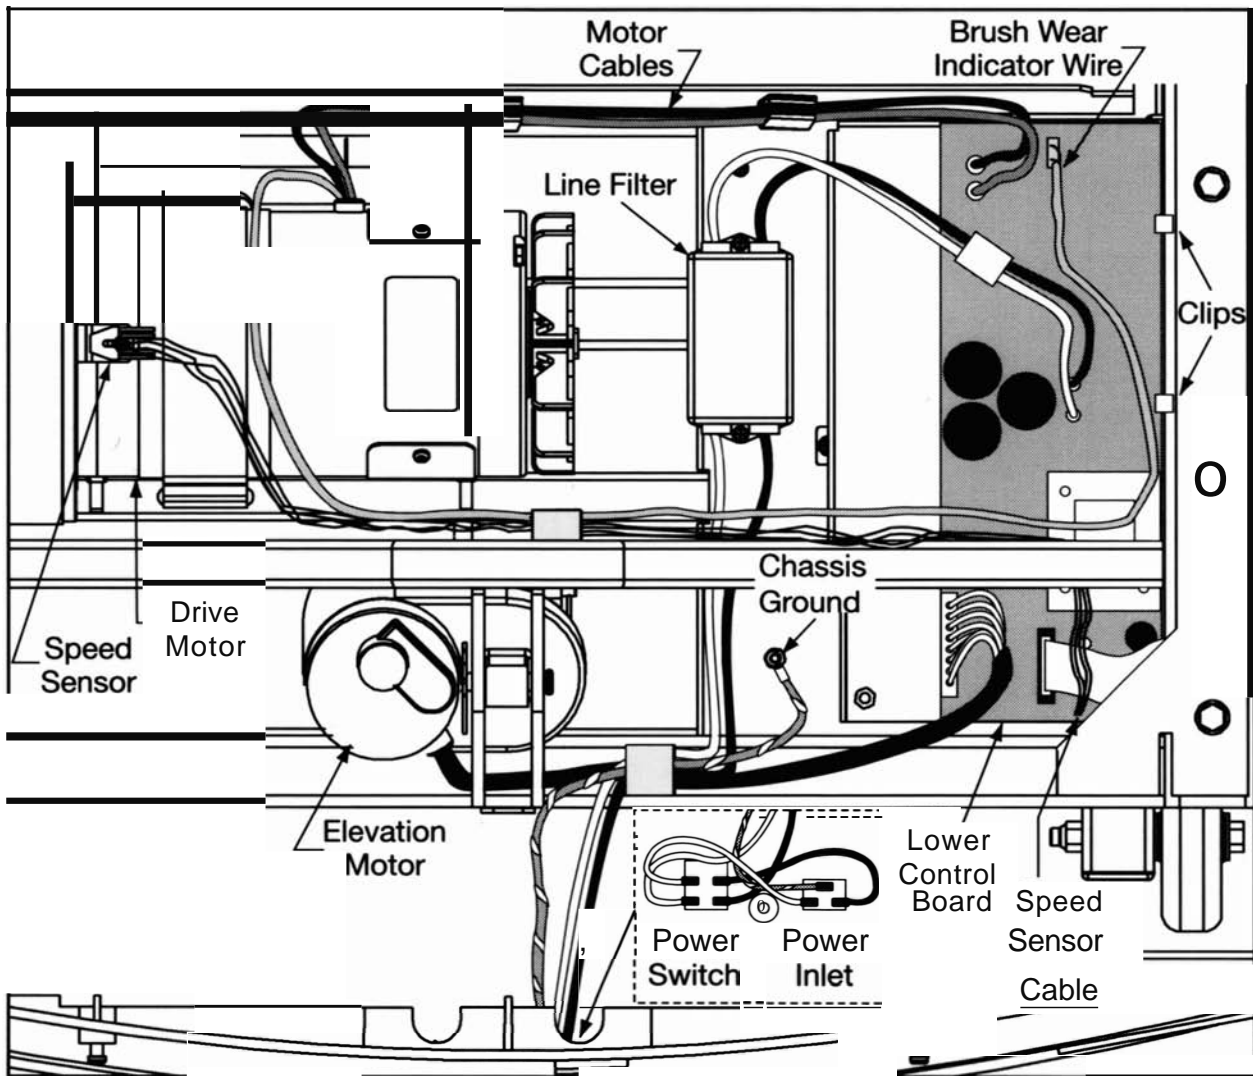

Figure 11
- A. Connect the red and black motor cables into the lower control board. The red cable should go where the board is labeled "red" and the black cable "black". See Figure 11.
- A. Unplug the elevation motor from the lower control board. See Figure 11.